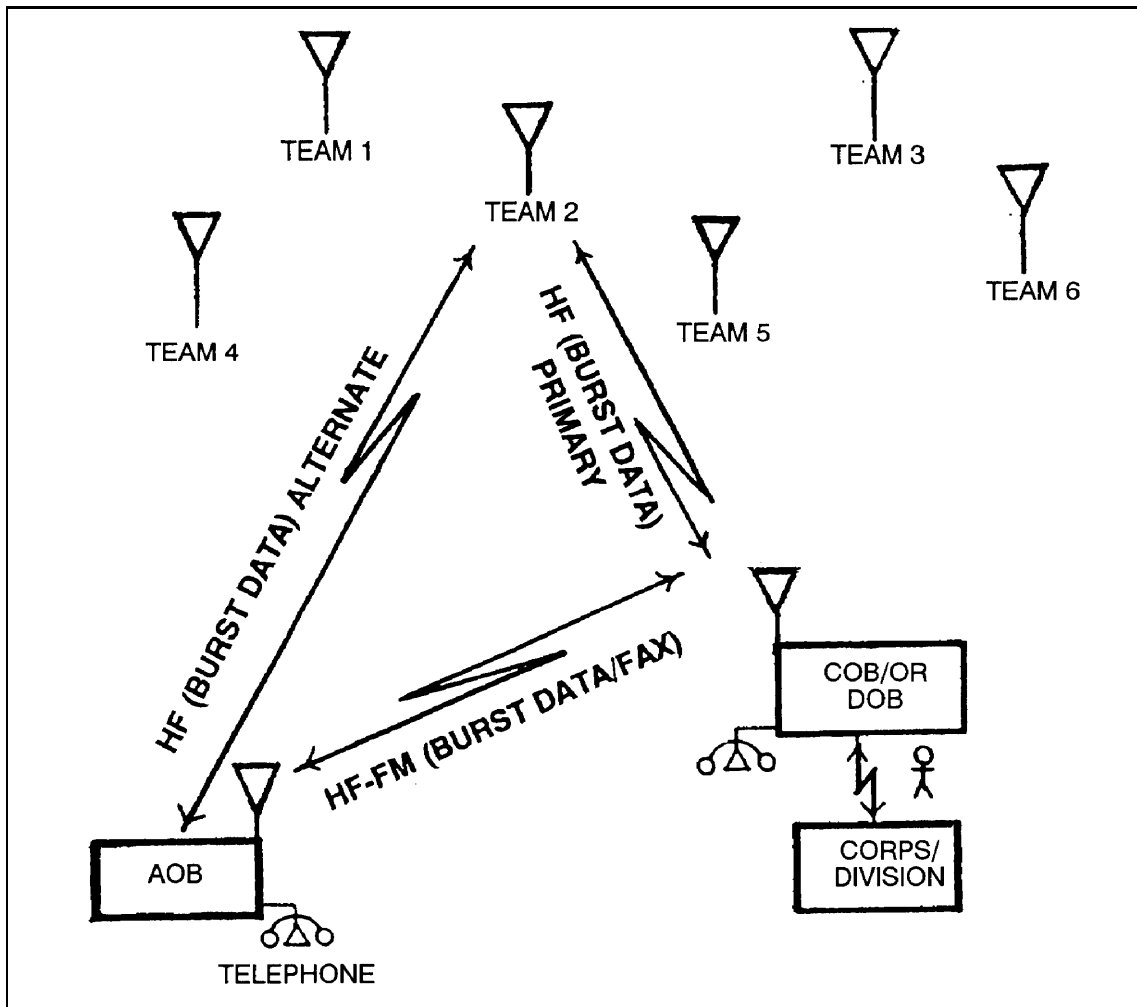

Figure D-1. Overall communications capabilities.
a. Of the variables that affect HF radio communication, the antenna **is** the one that an operator has the most control over. Proper antenna use greatly increases the chances of effective communication. Achieving the NVIS (near vertical incidence sky-wave) effect can be done with any antenna used with HF radios to help eliminate skip zones. This concept enables team RATELOs to establish communication with the COB or DOB. Consequently, NVIS enables the LRSU operations center to forward the information to the corps or division G2. (Figure D-1, page D-2.)